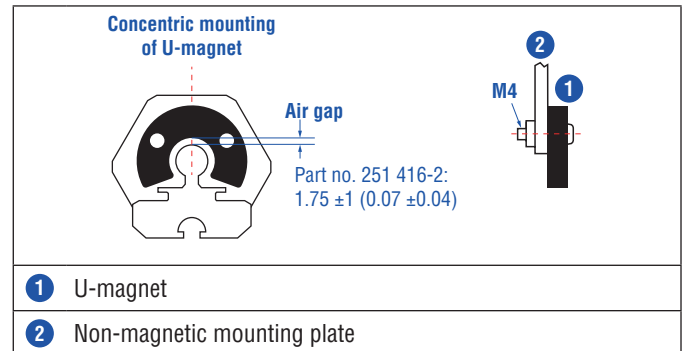
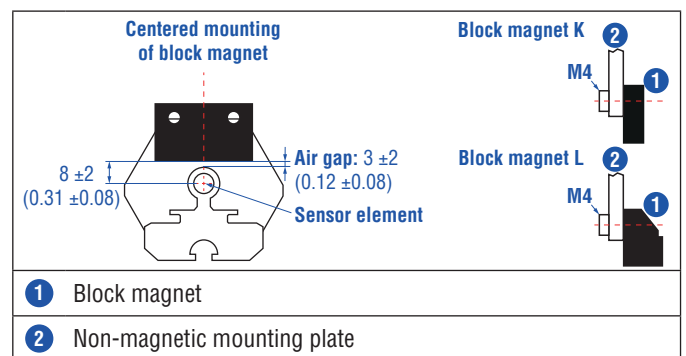

Fig. 13: Mounting of U-magnet (part no. 251 416-2)
Fig. 14: Mounting of block magnet K (part no. 251 298-2) and block magnet L (part no. 403 448)
- Mount block magnets centrically over the sensor rod or the sensor profile. The maximum permissible air gap must not be exceeded (Fig. 13/ Fig. 14).